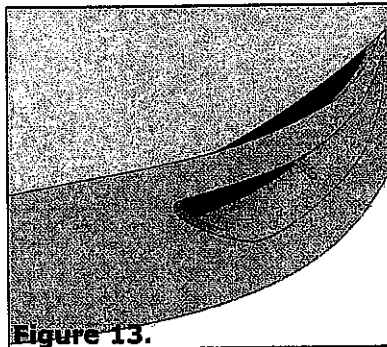

Figure 13.
- Pull front edge of chin forward of Fascia to avoid inhibiting tab locks during installation (See Figure 13).